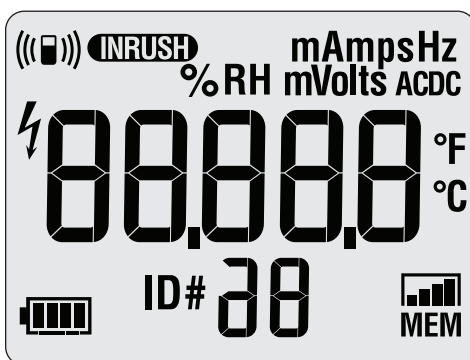

Figure 2. All Segments of the Display
2. Push **ⓘ** while you keep **LOG** pushed until all of the display segments are shown. See Figure 2.